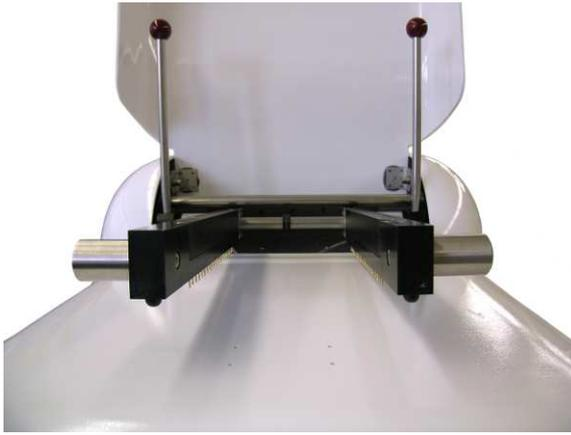

Figure 4.2 *Measuring arms in the position for placing or removing the solar cell*
1. The first step in conducting a measurement is the placement of the solar cell. Put the operating handles in the middle position, see Figure 4.2.